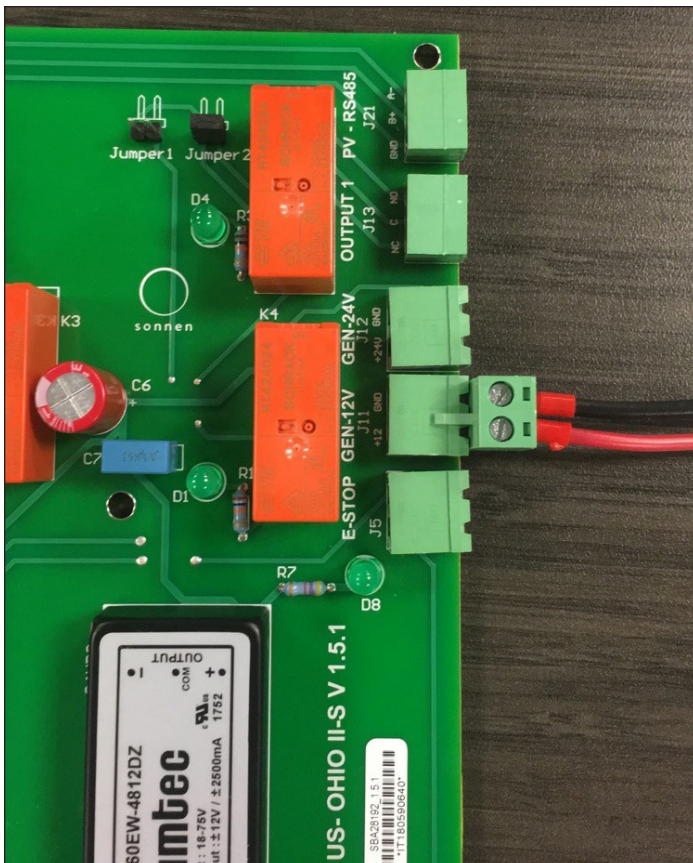

Fig. 32 12V signal connection
4. Insert the plug into the J11 port on the HUB board as shown in Fig. 32 below.